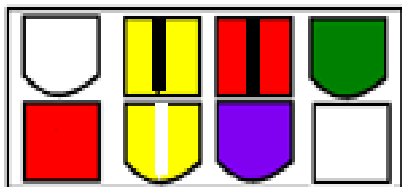

Figure 38.13
38.13. Looking at the plug head-on, it will be configured as shown in the diagram: There will be 8 female pin terminals. When probed they should yield the results described in the following sections. See Figure 38.13.